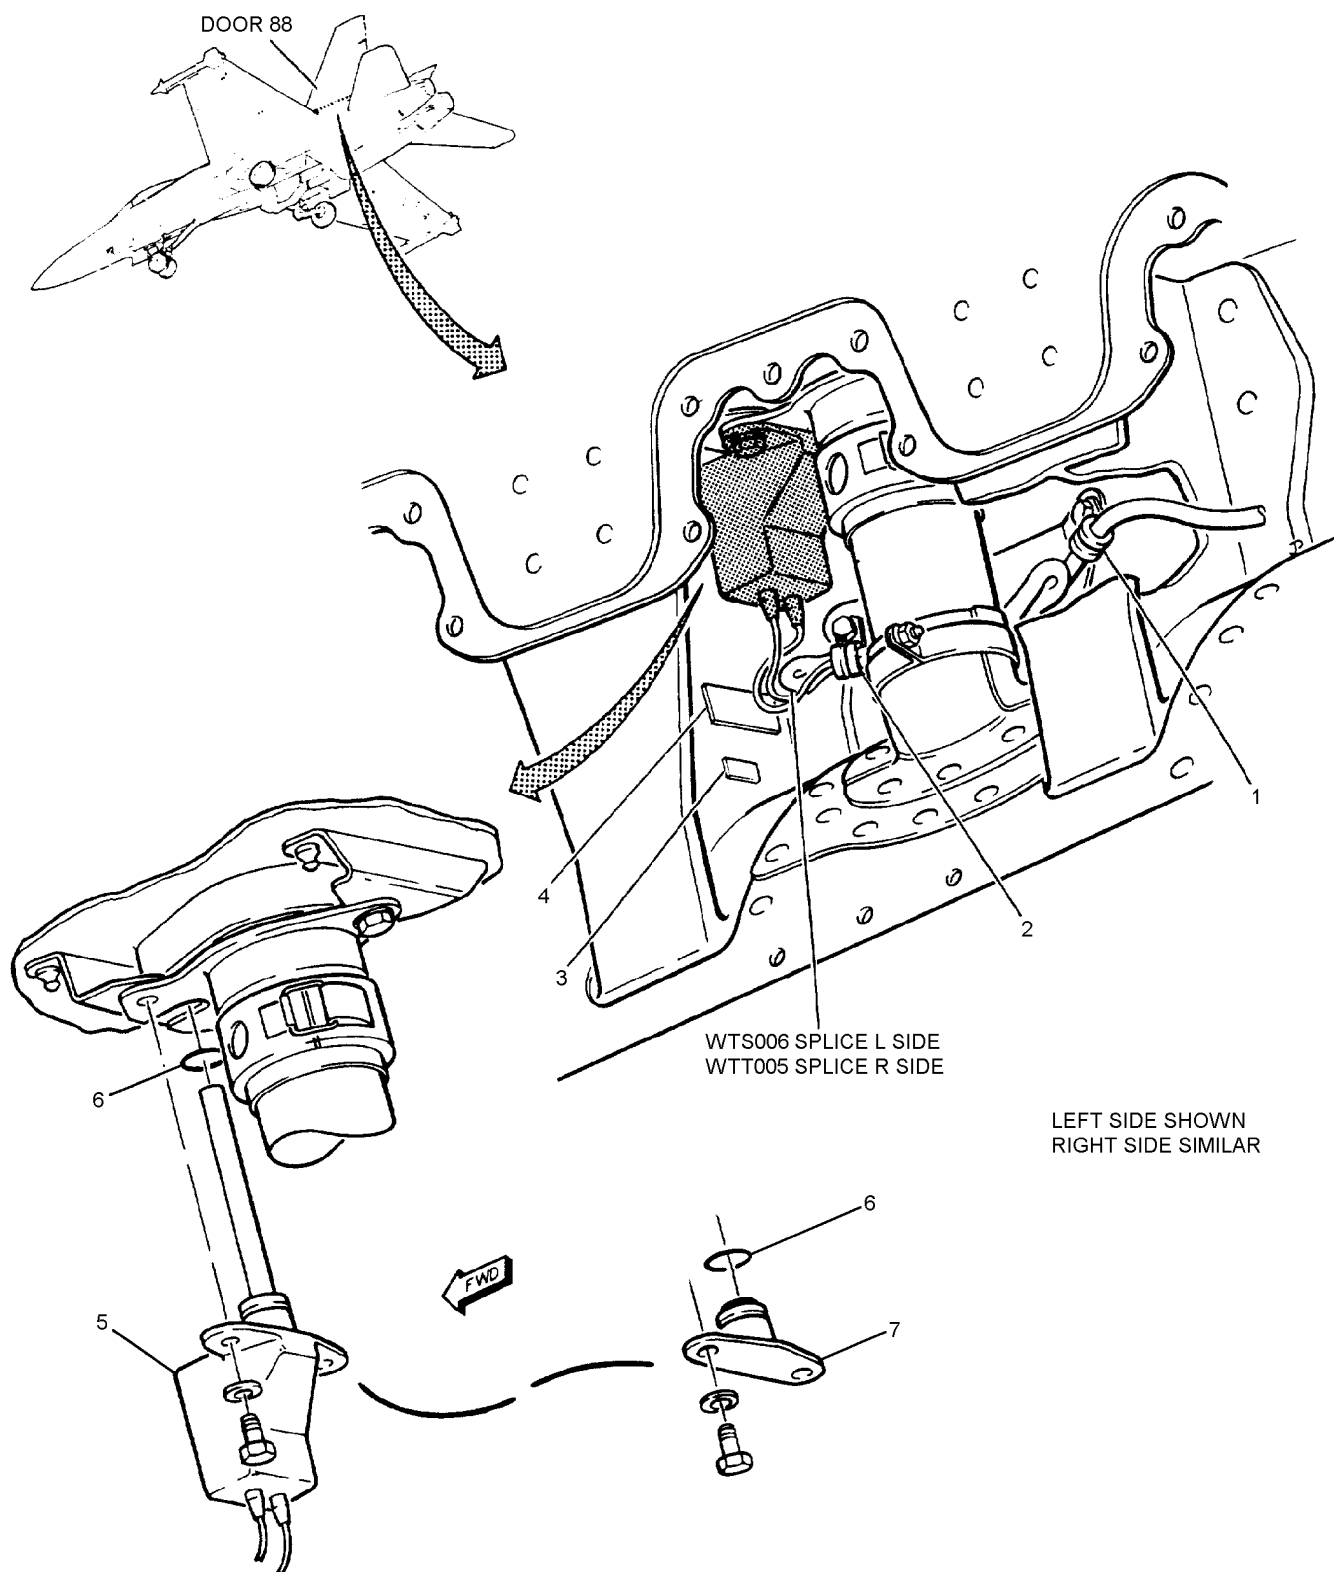

Figure 1. Vertical Stabilizer Vent Tank Fuel Sensor (5A-S149 or 5A-T150) (Sheet 1)
(1) Remove clamps (1 and 2) and attaching parts.
(2) Remove string ties, as applicable.
(3) Remove sensor (5), packing (6), and attaching parts.
(4) Disconnect wires at WTS006 or WTT005 splice area.
(5) At splice area WTS006 or WTT005, dead end wires per NAVAIR 01-1A-505.
(6) Reposition wire bundle and install clamps (1 and 2) and attaching parts.
f. If plug (7, figure 1) is installed, remove plug (7), packing (6), and attaching parts.
a. Lubricate packing (6, figure 1) with petrolatum.
b. If installing sensor (5), do substeps below:
(1) Install packing (6) on sensor (5).
(2) Install sensor (5) and attaching parts.
(3) Install clamps (1 and 2) and attaching parts.
c. If installing plug (7), do substeps below: